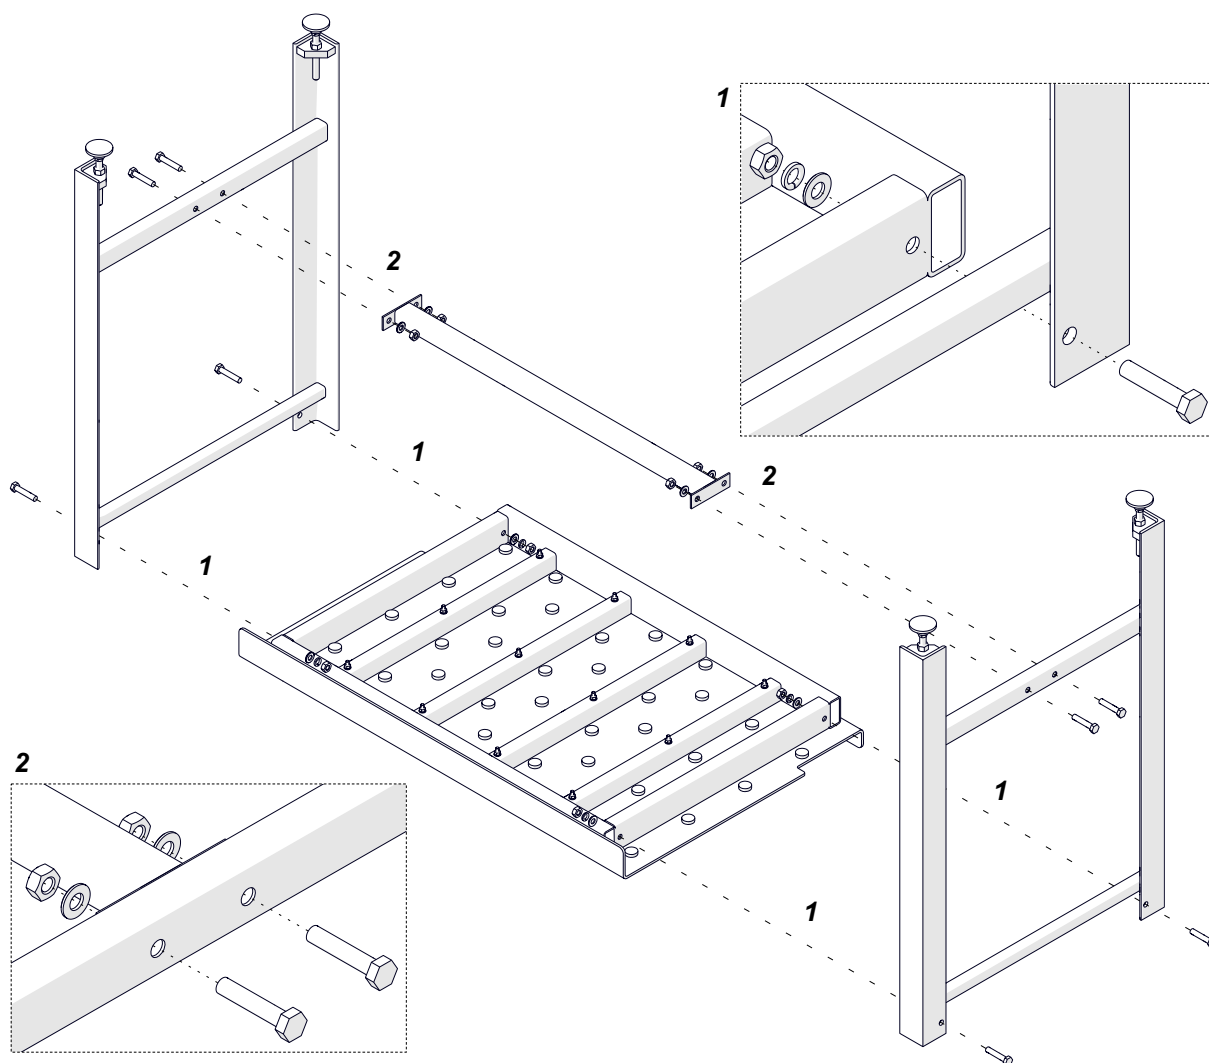

Fig. 18. Assembling the table
To assemble the table, put it upside down (Fig. 18). Use the 16 mm and 17 mm flat wrenches to attach the legs (1) and bracket (2).
Use the 14 mm flat wrench to turn the feet (1, Fig. 18) so that the height of the tables is the same. Next, use the 18 mm flat wrench to tighten the nuts (2) to lock the feet in this position. Then, align the faces of the tables (3). Be careful not to catch your hands between the handle and table (4).